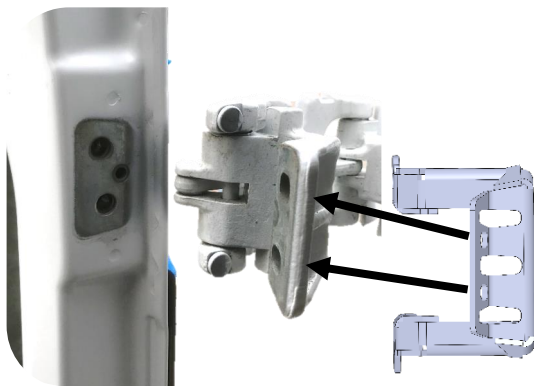

Figure 5: Upper Bracket Orientation
11. Install the upper hinge bracket (350682) the holes in the bracket should align with the bolt holes, the "legs" should be facing the outside of the door as seen in Figure 5.